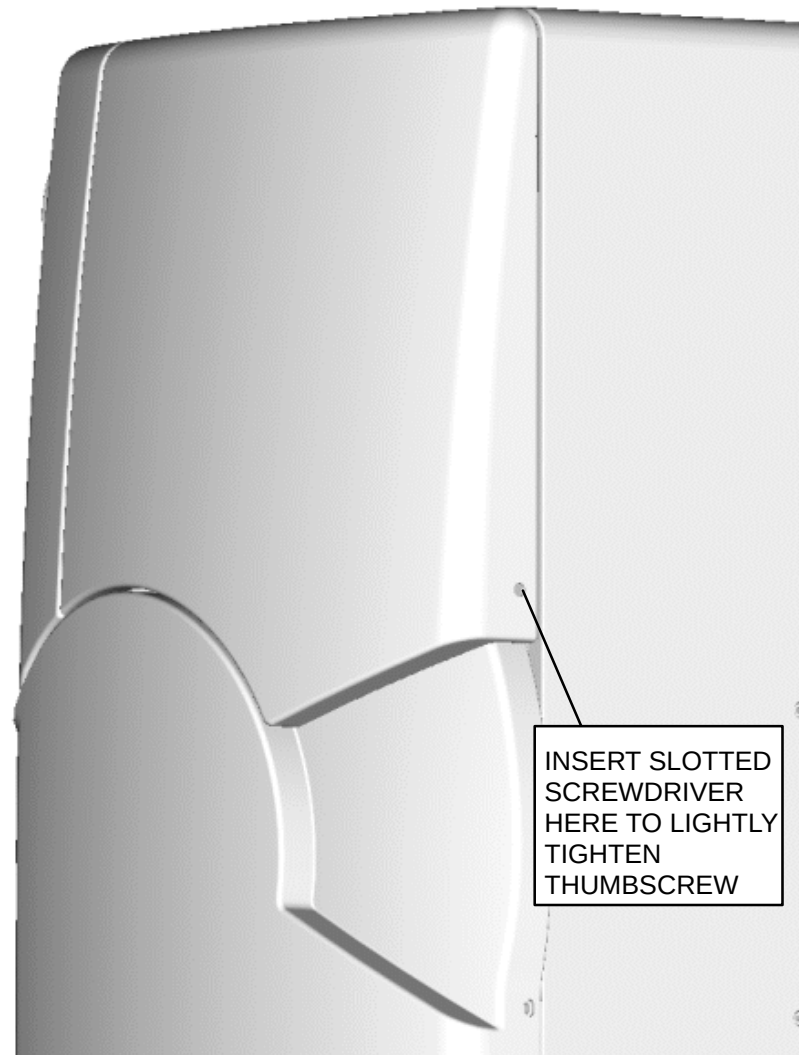

FIGURE 13 THUMBSCREW LOCATION
4. Visually locate the thumbscrew through the hole on the back side of the Upper Right Column Cover. Insert a long, narrow slotted screwdriver into the hole and lightly tighten the thumbscrew. This is a blind connection, so ensure you get the right “feel” of the captive screw starting correctly. Refer to Figure 13.